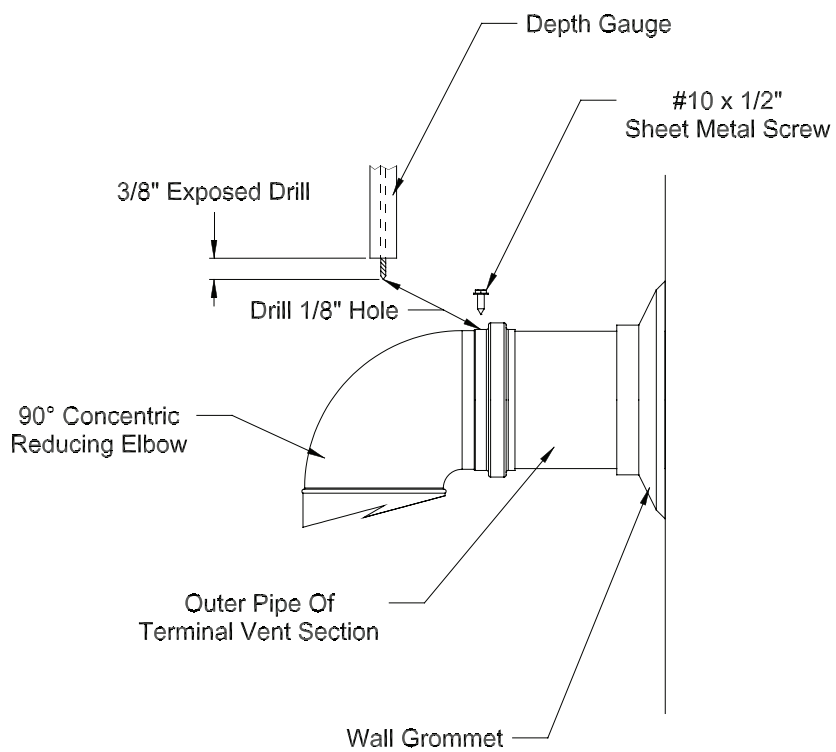

FIGURE 7.25: ATTACHING 60/100mm TERMINAL SECTION
- i) The terminal section must be attached to the elbow with a single #10 x 1/2" sheet metal screw (not supplied) at the top of the elbow. Drill a 1/8" hole in the location shown in Figure 7.25. **Use a short drill bit or a drill stop to ensure that the drill bit does not penetrate the pipe by more than 3/8".** Install a #10 x 1/2" screw in this hole. **Do not use a screw longer than 1/2" long.**